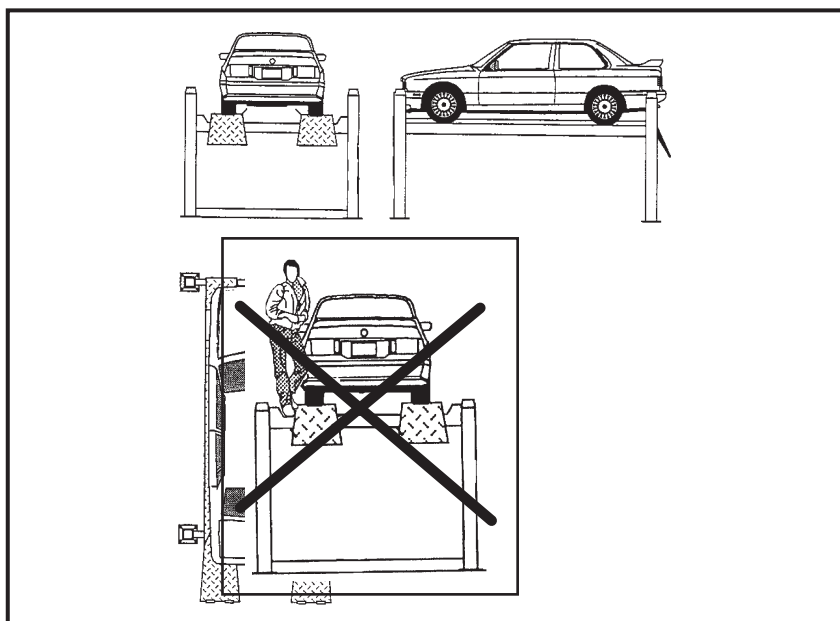

Fig.22 Correctly positioned vehicle
- make sure the vehicle is positioned correctly (see Fig.22);
- make sure that there are no persons on the platforms during up and down movements and during standing (Fig.22).